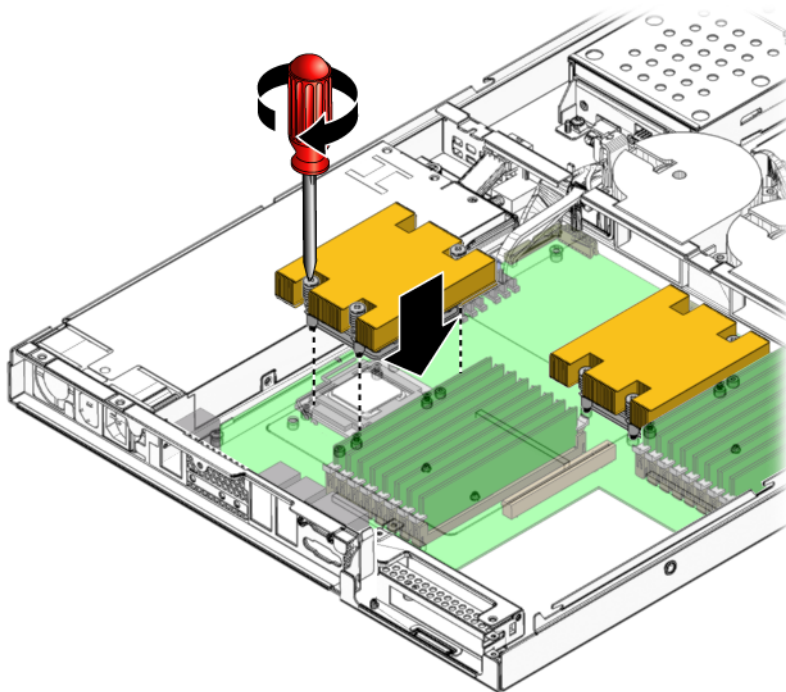

FIGURE 4-32 Installing the Heatsink
13. Fasten the four screws attaching the heatsink to the motherboard. See FIGURE 4-32.